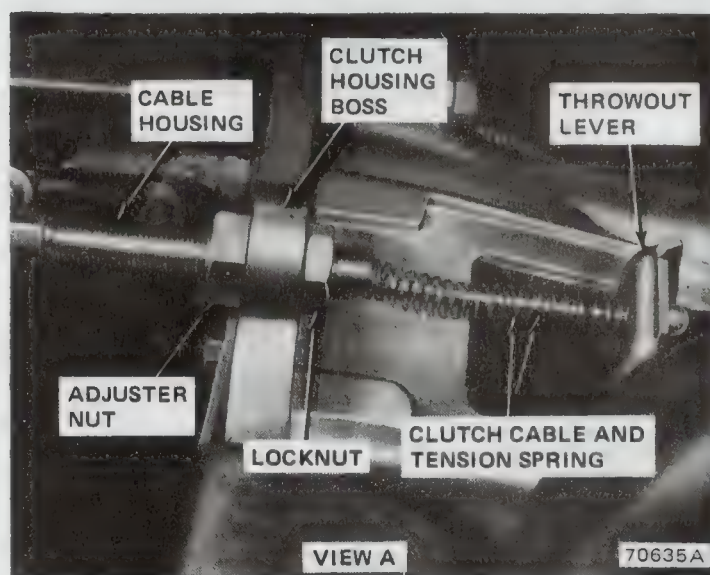

Fig. 2A-11 Clutch Adjustment
- (1) Remove gearshift lever bezel and slide outer and inner boots toward top of gearshift lever.
- (2) Fold carpet under to provide working clearance and straighten all gearshift lever lock tabs that are bent downward (fig. 2A-12).